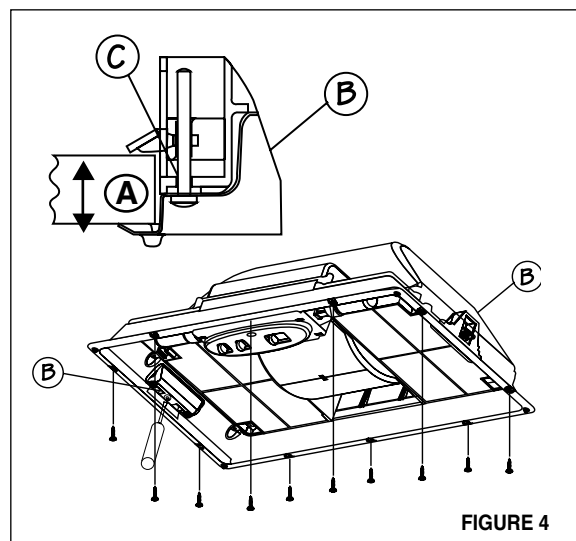

FIGURE 4
4. Fix the rangehood to the cabinet using the two spring loaded brackets, one on each side of the rangehood (**B** in **FIGURE 4**). Using a phillips screwdriver, tighten the adjustment screw (**C** in **FIGURE 4**) until the brackets adhere tightly to the surface. For thicknesses of LESS than 3/4", insert a block of wood to fill in the gap between the cabinet bottom and the spring loaded bracket.
5. **IMPORTANT:** Also fix the rangehood to the cabinet using the 10 screws provided (**FIGURE 4**).